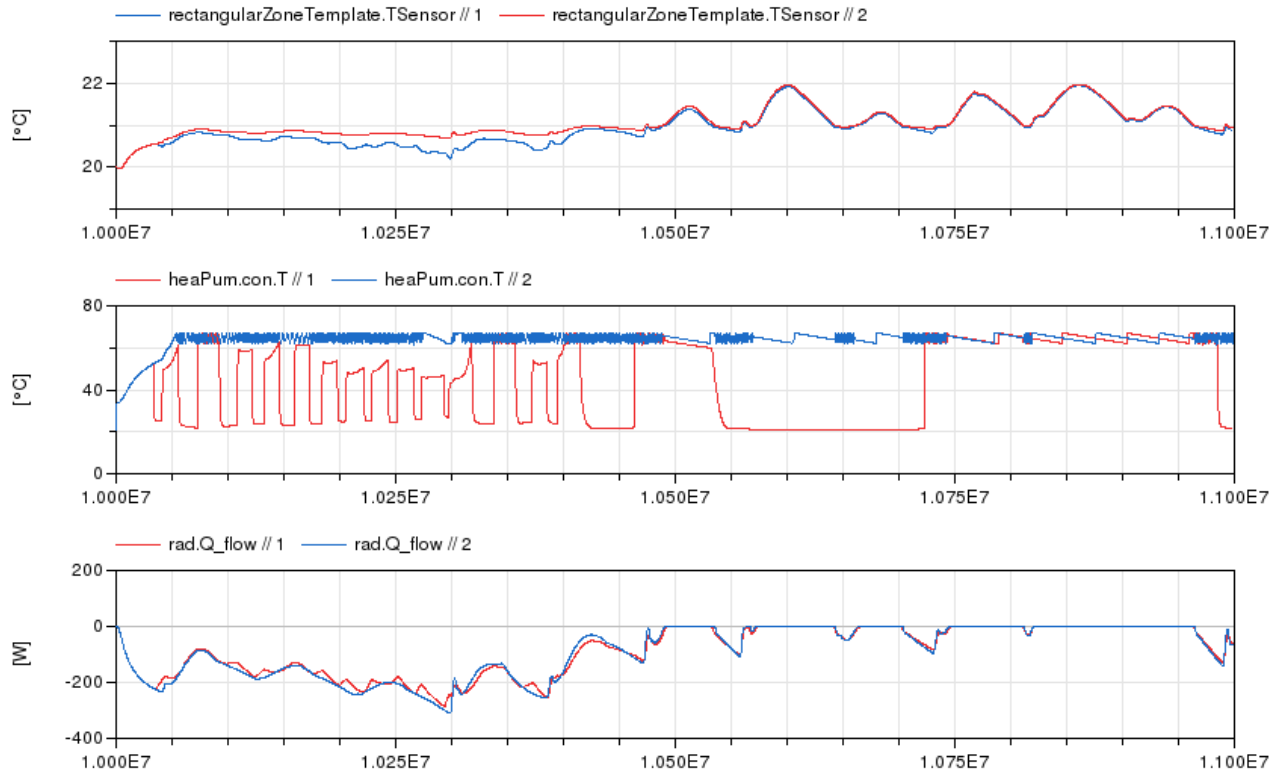

Figure 3: Comparison with (red) and without (blue) control for zone temperature, supply water temperature and radiator thermal power.
**Reference result** Figure 3 compares the results with the results without controller. We see that indeed, the supply temperature is reduced significantly. This causes the zone temperature to be slightly lower, up to about 0.25 K. The COP however increases significantly, from about 2.7 to about 3 to 4. Consequently, the energy use over the period is reduced from 17.2 kWh to 12.57 kWh.